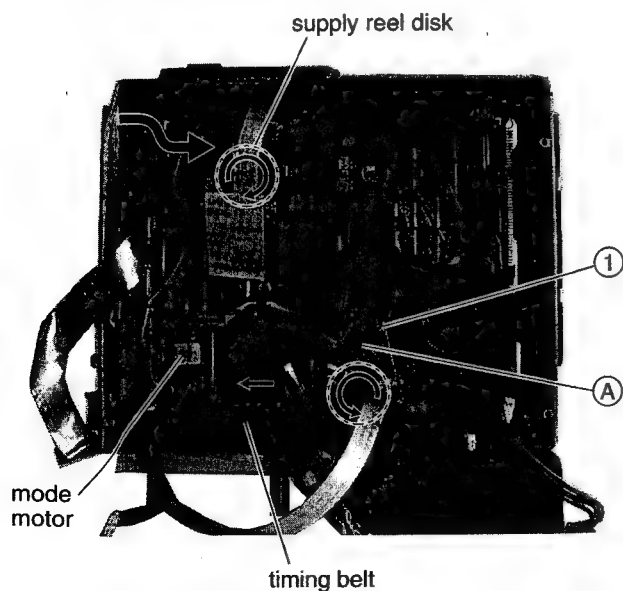

Fig. 1.10 How to take a cassette out manually
- (1) Take out the PRE/REC board and the S/S REG board. (Refer to the section 1.2.6)
- (2) Remove the screw ① and the spring hook (A) in order to loosen the timing belt.
- (3) Take the timing belt out at the mode motor side.
- (4) Turning the timing belt in the direction shown in the Fig. 1.10 allows performing of the unloading and eject functions. Any tape slack occurring with this procedure should be wound by inserting a finger from the direction shown with an arrow in the diagram in order to turn the supply reel disk.